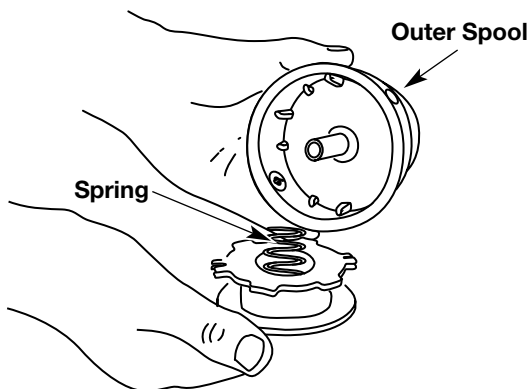

Fig. 22
2. Remove the inner reel from the outer spool (Fig. 22).
3. Remove spring from the inner reel (Fig. 22).
2. Remove the old inner reel from the outer spool (Fig. 22).
3. Remove the spring from the old inner reel (Fig. 22).